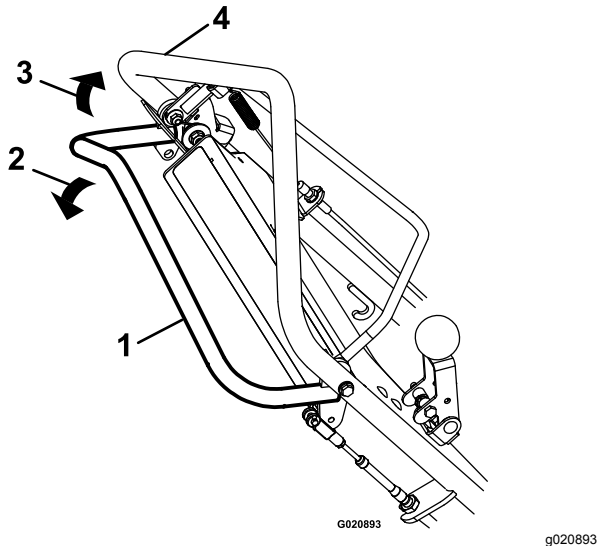

Figure 12
- To move forward, squeeze the self-propel drive bail against the handle (Figure 12).